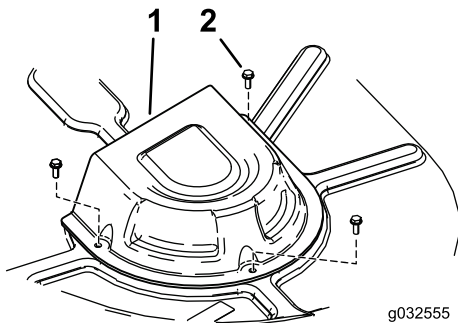

Figure 64
4. Remove the pulley covers (Figure 64).